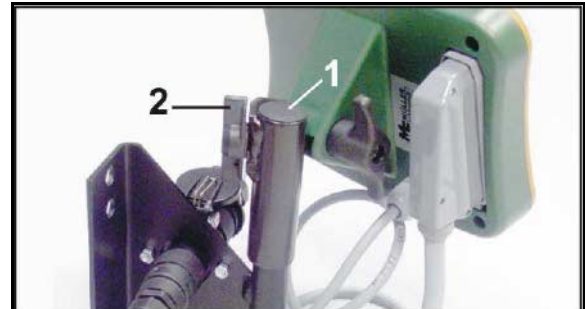

Fig. 68
1. Insert the counterpiece (Fig. 68/1) into the console and secure with the thumb screw (Fig. 68/2).